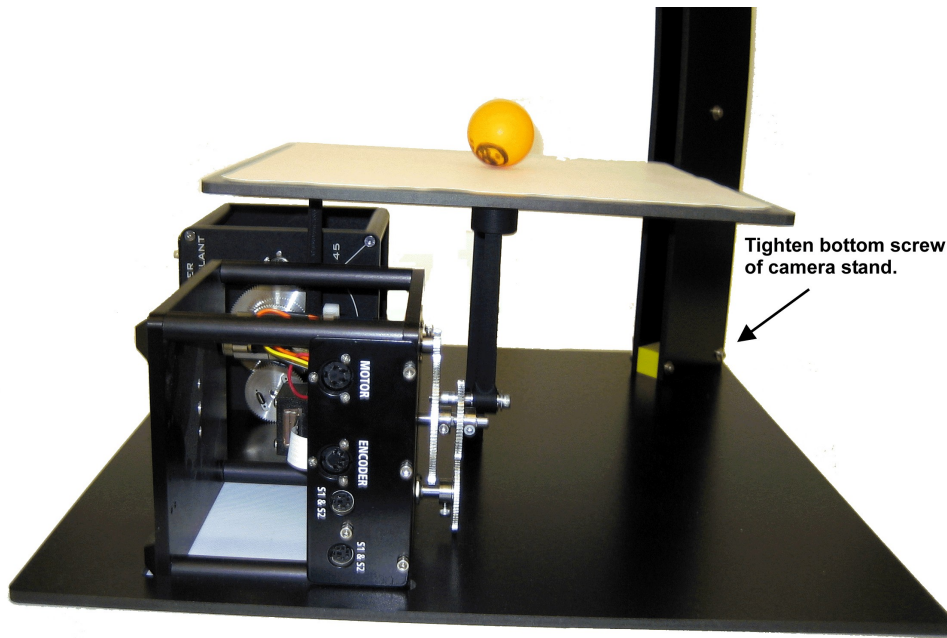
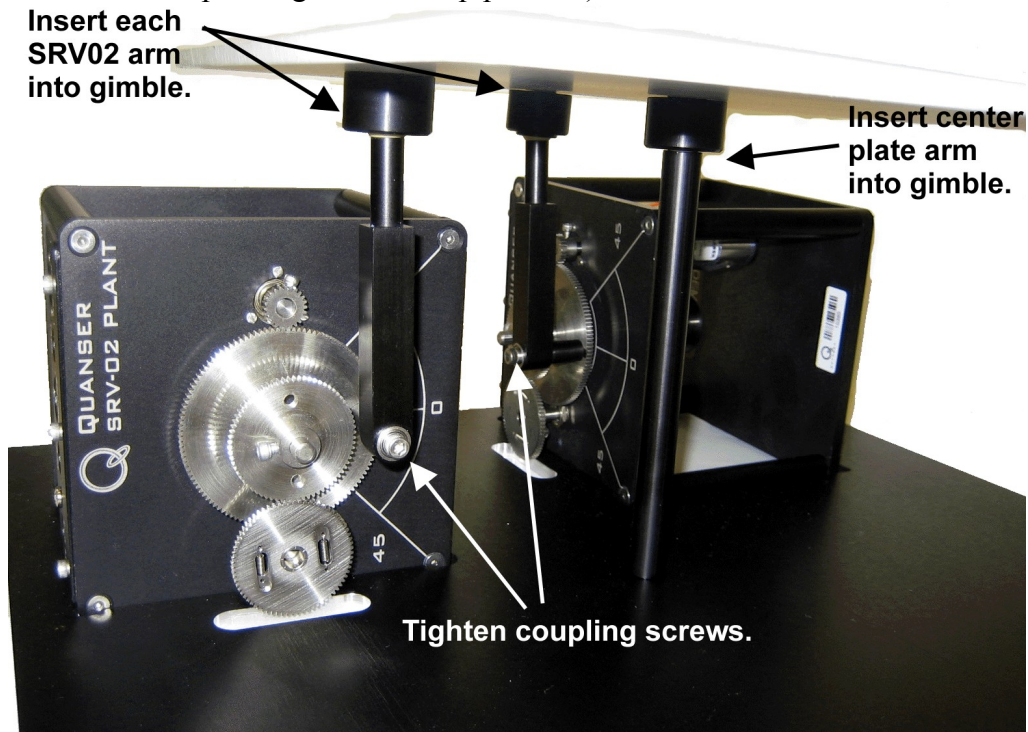

Figure 7: Setting up camera stand in 2DBB system.
Figure 9: Setting up SRV02 devices for the 2DBB system.
3. **Setting up camera stand:** As shown in Figure 7, place the camera stand, component #10, into the corner of the calibration base and align the two screw holes on the bottom of the stand with the holes in the corner of the base plate.
9. As pictured in Figure 7 and Figure 9, place each SRV02 unit on their side into the cut-out sections of the calibration base with the potentiometer gear being in the down position (and the small 24-tooth pinion gear in the top position).
10. As pictured in Figure 9, place the *support arm*, component #8, in the middle of the calibration base and insert its other end into the gimbal located in the center of the underside of the plate.
11. For each SRV02, tighten the coupling screw (component #4) of the lever arm (ID #5) into the screw hole of the large 120-tooth load gear, as illustrated in Figure 9.
1. As illustrated in Figure 9, above, manually rotate the load gear of each servo around the 0 degree position. That is, the coupling screw should be aligned with the marked 0 degree position.
2. Place the ball approximately in the middle of the plate, as pictured in Figure 9, and adjust the angles of the SRV02 load gears until the ball ceases to move. The ball does not have to be exactly in the center of the plate.